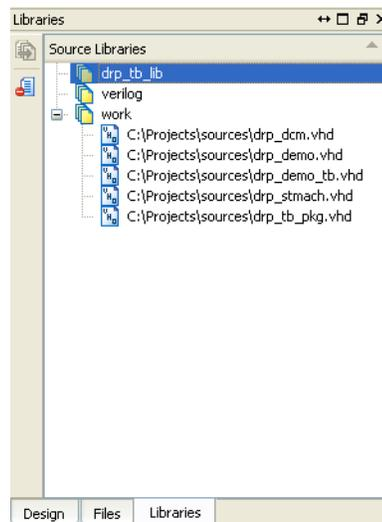

Figure 2-13: **Select the Libraries Tab**
1. In the Sources Pane, select the Libraries tab to switch to the Libraries Pane. (Refer to Figure 2-13.)
2. Expand the work library by clicking once on the hierarchy separator (Refer to Figure 2-13.)